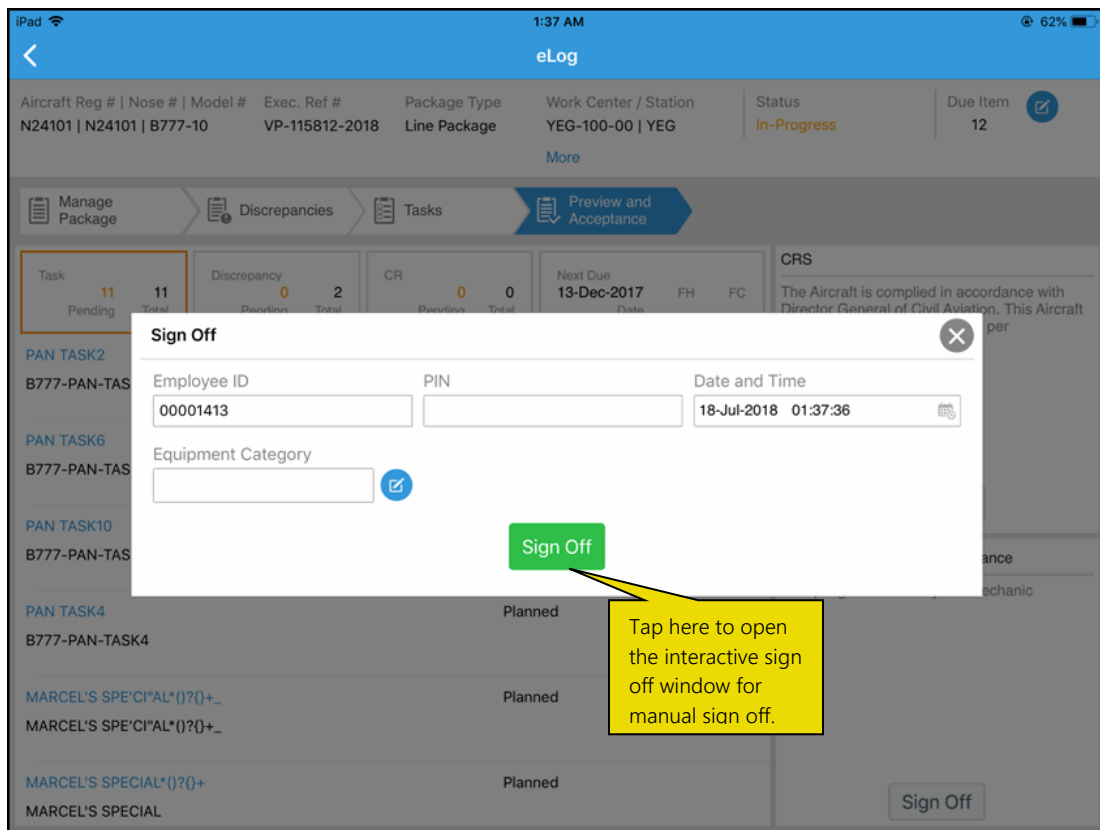

Figure 4.32: The Sign Off popup
- Tap on the **Sign Off** button to open the **Sign Off** popup. See Figure 4.32.